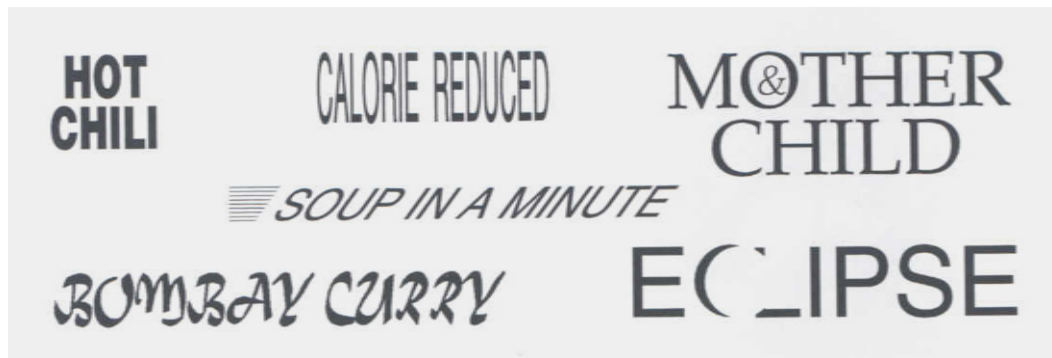

Figure 10.2 Typography can be designed to communicate more than just the word itself
- Decorative fonts to project a certain character or mood. Script fonts, for example, may be considered as feminine or romantic and are popular for personal care products. Elaborate script fonts can be difficult to read; relatively simple script designs in a larger size are preferred. Figure 10.2 shows a number of type treatments designed to convey a message beyond the actual textual message